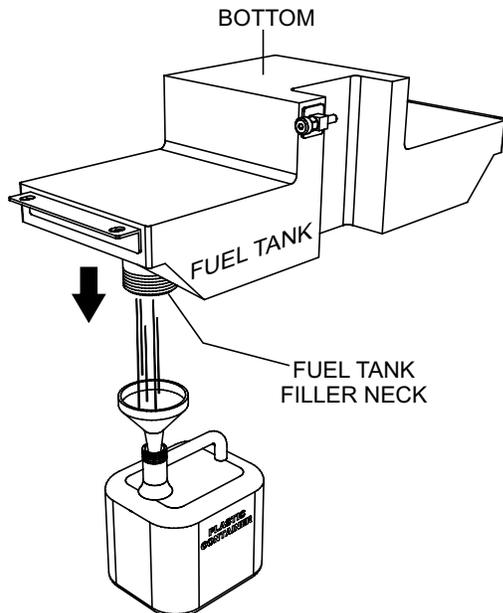

Figure 7. Fuel Tank Drain
4. Next, turn fuel tank upside-down (Figure 7) and drain any fuel in the fuel tank into a suitable container.